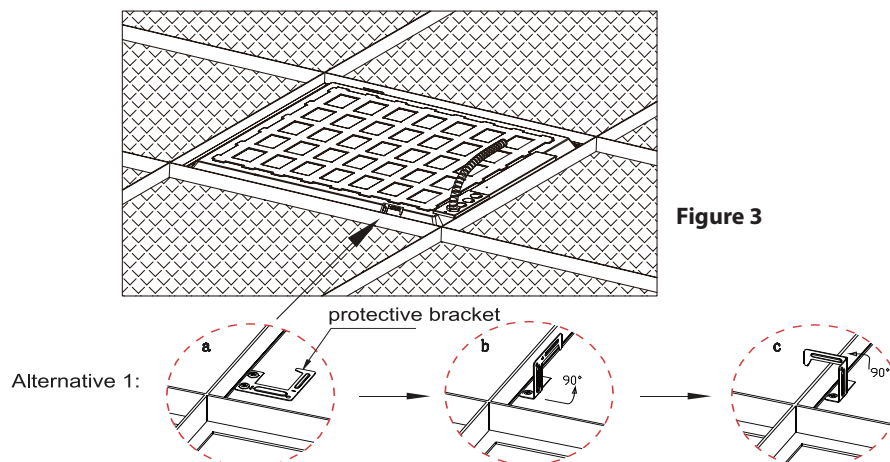

Figure 3
5. Grid clips are provided for additional retention to ceiling system. Orient 4 tabs on back of the fixture over the grid by bending tabs up 90 degrees perpendicular to back of the fixture. Next bend tabs 90 degrees towards T-GRID frame (Fig.3)